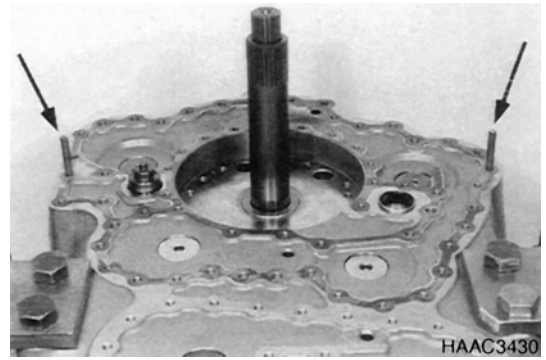

Figure 260
1. Install two adjusting screws (Figure 260) and mount flat gasket.